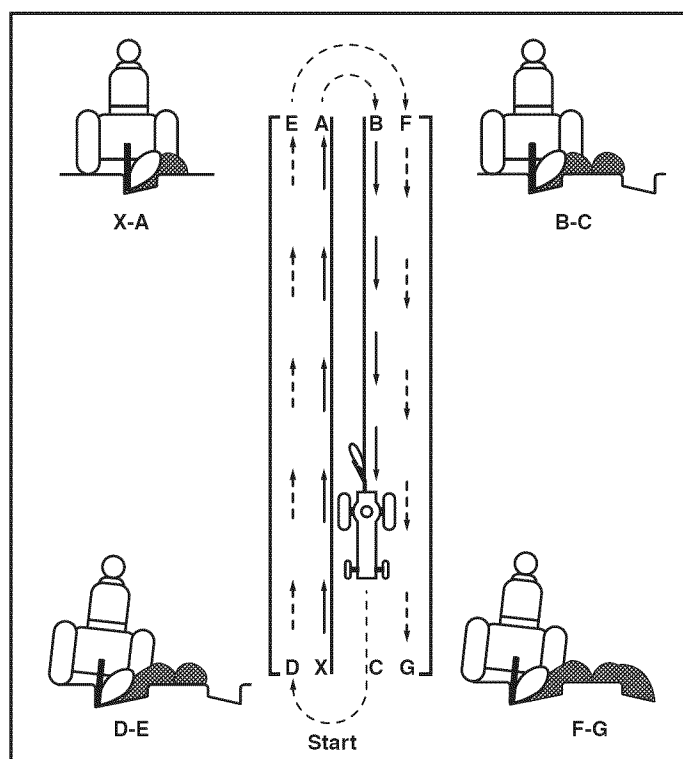

FIGURE 13
- Go and make your first two furrows as shown in figure 13 (X to A and turn B to C). Make sure the tractor lift handle is lowered and locked into the down position. Plow in third gear and near full throttle. Raise the plow to the transport position when turning.